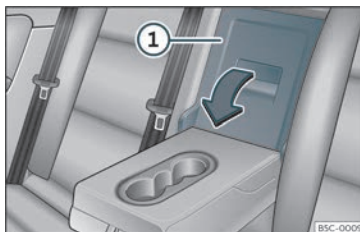

Fig. 129 In the rear seat backrest: opening the trapdoor.
- Pull the release lever in the direction of the arrow and push the tailboard cover »» **Fig. 129**  down and forwards.